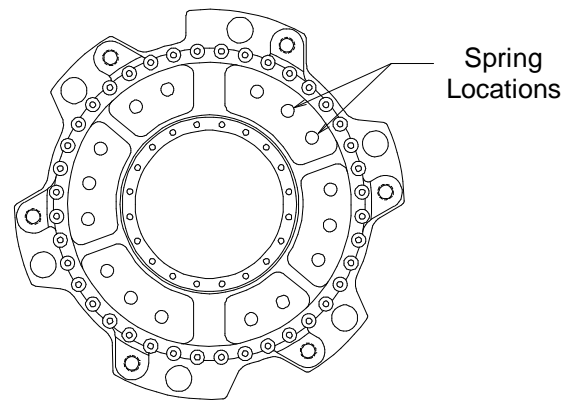

Fig. 11
4.9.20 Install the springs in a symmetrical pattern on the pressure plate subassembly (13), distributing them as evenly as possible. Locate the springs over bosses or in the spring pockets in the pressure plate, as shown in Figure 11. If applicable, position the spring retainers (53) on top of the springs to hold the springs into position.